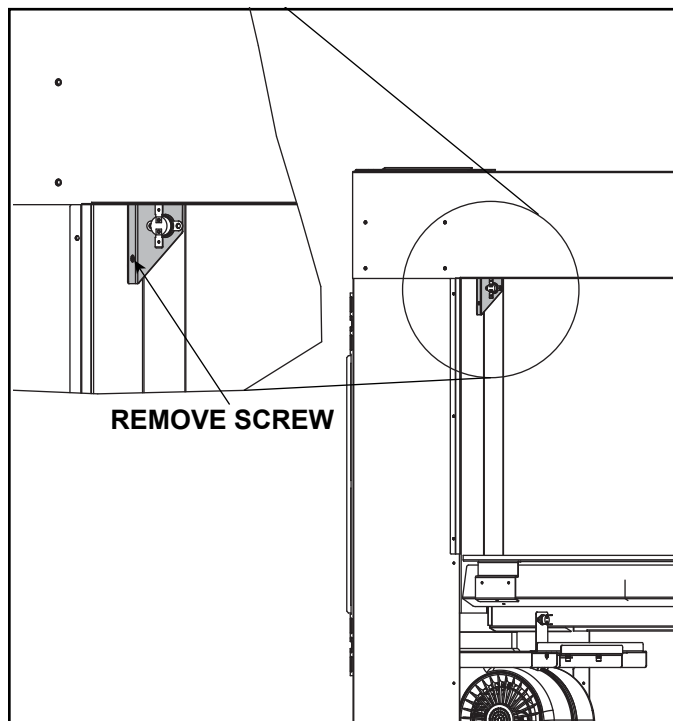

Figure 4.2 High Temperature Limit Switch Installed Correctly
1. Remove the firebox glass high temperature limit switch assembly by removing the machine screw holding the bracket in place and set the assembly aside. See Figure 4.2.
- Reinstall high temperature limit switch assembly and attach wire connections. See Figure 4.2.
- Ensure that high temperature limit switch is installed correctly with wires connected. See Section 11 of appliance Installation Manual for installation instructions. See Figure 4.2. Verify that wires are not pinched by the transition media tray.